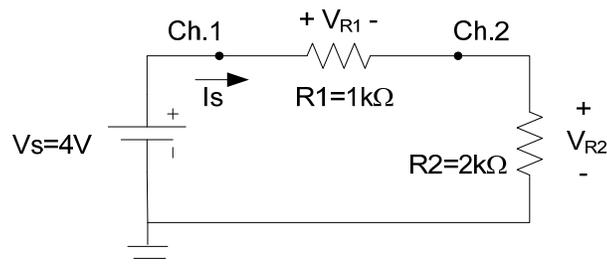
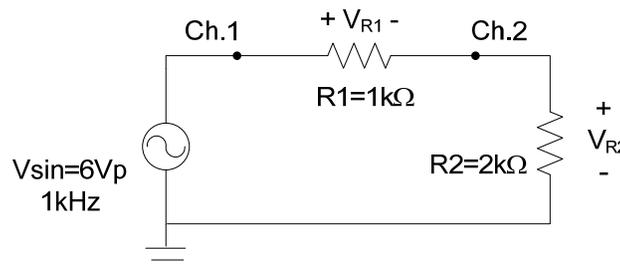
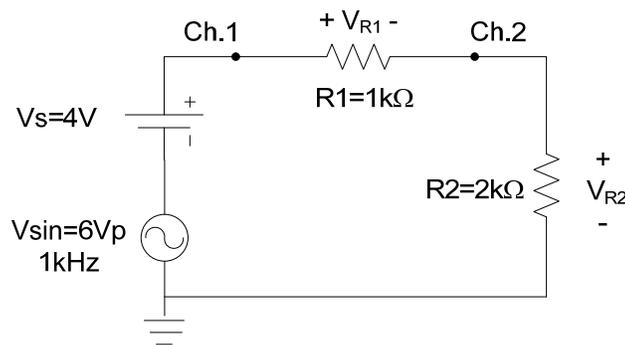

Figure 8.1: DC Series Circuit.
Figure 8.2: AC Series Circuit.
Figure 8.3: AC+DC Series Circuit.
2. Perform a Transient Analysis in PSpice on the circuit in Figure 8.1 by doing the following steps. From the pull down menu select Markers → Mark Voltage/Level (Ctrl+M). Place markers at Ch.1, Ch.2, and GND. Again from the pull down menu select Analysis → Setup → Transient (Check Box). Set the Print Step to 0ns and the Final Time to 1ms. Check the box beside the “Skip initial transient solution”. Save the file and run a simulation (F11). A Probe Plot will automatically pop up displaying the voltages at each marker as a function of time. Record the DC voltages at the nodes labeled Ch.1 and Ch.2 in Table 8.1.
3. On the same PSpice schematic beside the previous circuit, build the circuit shown in Figure 8.2. The parts needed are: VSIN, r, GND_Earth. Double-click on the VSIN component and set the DC=0, AC=0, VOFF=0, VAMPL=6, and Freq=1k.
- Perform a Transient Analysis in PSpice on the circuit in Figure 8.2 by doing the following steps. From the pull down menu select Markers → Mark Voltage/Level (Ctrl+M). Place markers at Ch.1 and Ch.2. Again from the pull down menu select Analysis → Setup → Transient (Check Box). Set the Print Step to 0ns and the Final Time to 1ms. Check the box beside the “Skip initial transient solution”. Save the file and run a simulation (F11). A Probe Plot will automatically pop up displaying the voltages at each marker as a function of time. Record the peak voltages at the nodes labeled Ch.1 and Ch.2 in Table 8.1. Return to the schematic where the V and I display buttons should still be pressed. Record the DC voltages at Ch.1 and Ch.2 in Table 8.1. Remove all markers in the PSpice schematic.
- On the same PSpice schematic, build the circuit shown in Figure 8.3. (Figures 8.1 and 8.2 should still be intact). Use the same settings as in the previous circuits.
- Return to the PSpice circuit of Figure 8.2. Double-click on the VSIN component and set the DC=4, AC=0, VOFF=4, VAMPL=6, and Freq=1k. Again place markers at Ch.1 and Ch.2 and run a simulation. Record in Table 1 the peak voltages for each waveform. Return to the schematic and press the V and I buttons. Record the DC values in Table1. How do the waveforms of Figure 8.2 with DC=4 compare to the waveforms of the circuit with AC and DC sources in Figure 8.3?
1. Construct the circuit shown in Figure 8.1.
2. Use an Agilent E3612A Power Supply as the DC source voltage in Figure 8.1. Accurately set the voltage to 4.0V and confirm the source voltage value using a digital multimeter.
6. Connect the BNC connector of one scope cable to CH1 on the scope. Connect the red alligator clip of that scope cable to the node labeled Ch.1 on the circuit of Figure 8.1 and connect the black alligator clip of the cable to the circuit ground.
23. Set the amplitude of the sine wave by highlighting **Ampl** using the second blue softkey. On the numeric key pad press "1" "2" followed by the blue softkey **Vpp** to set the voltage to 12Vpp, which provides the required 6Vp shown in Figure 8.2.